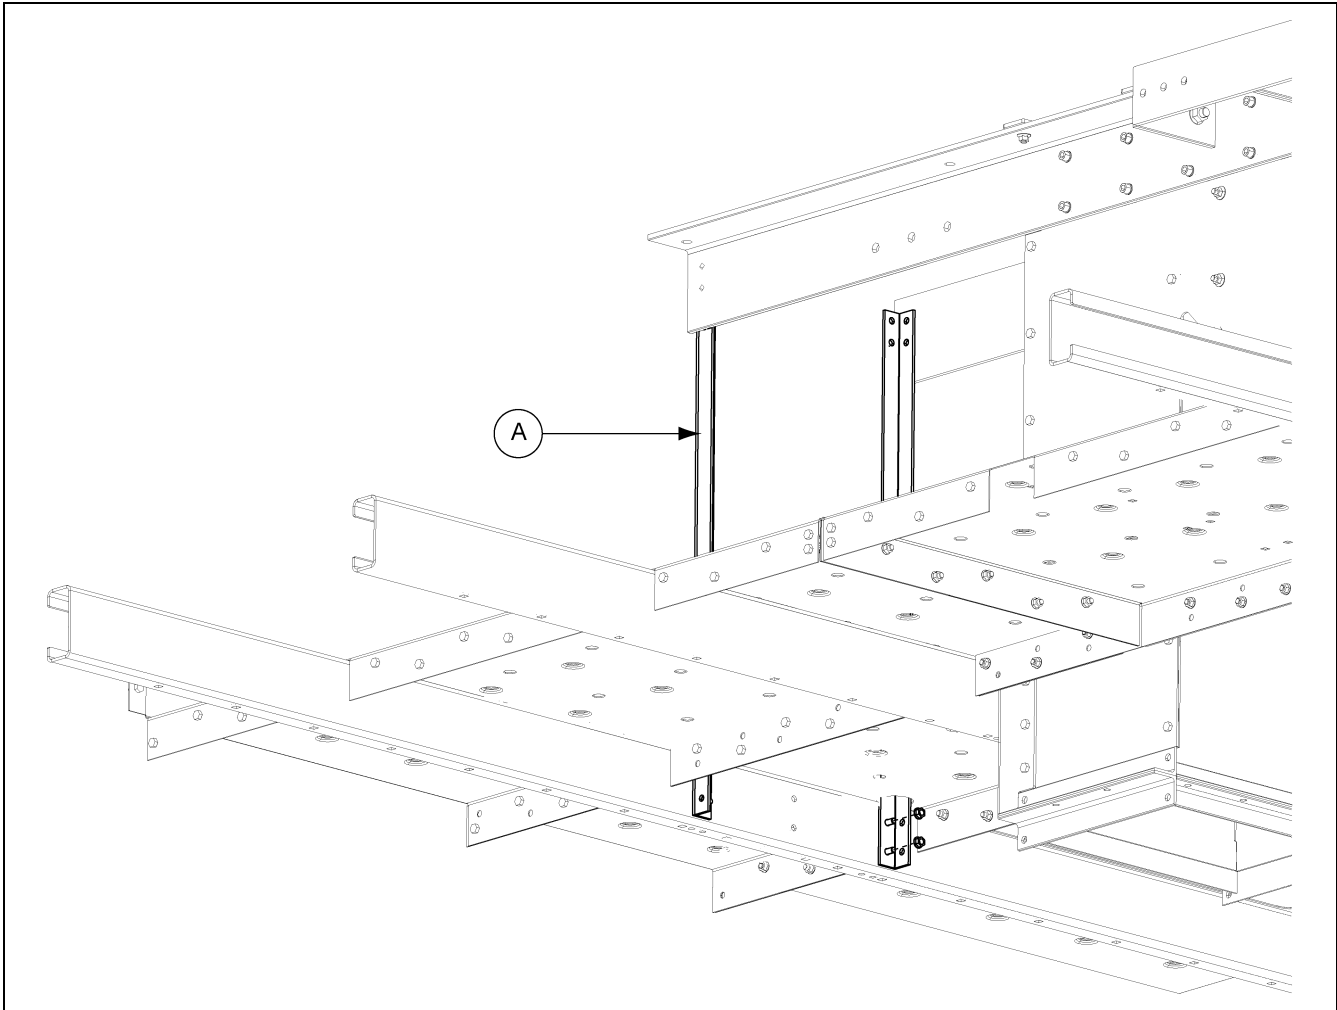

Figure 10B 36" Bearing Support Angle
- 1. Place two (2) head bearing angle supports (HP36HBS) (A) as shown in Figure 10B.